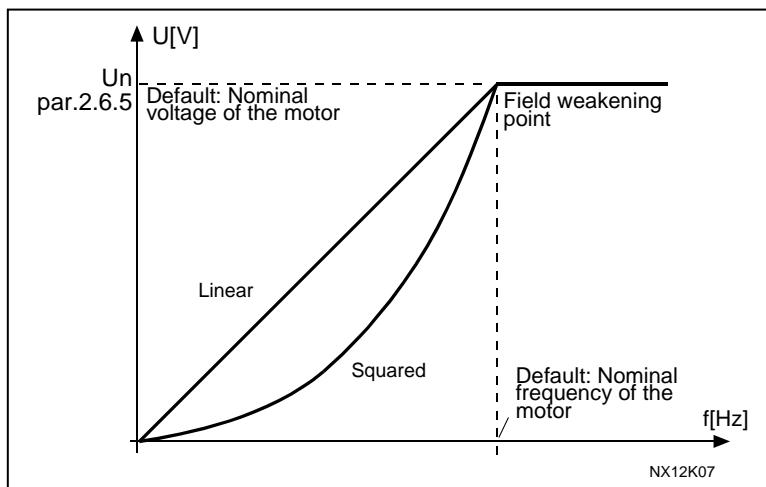

Figure 23. Linear and squared change of motor voltage
- Linear: The voltage of the motor changes linearly with the frequency in the constant flux area from 0 Hz to the field weakening point where the nominal voltage is supplied to the motor. Linear U/f ratio should be used in constant torque applications. See Figure 23.